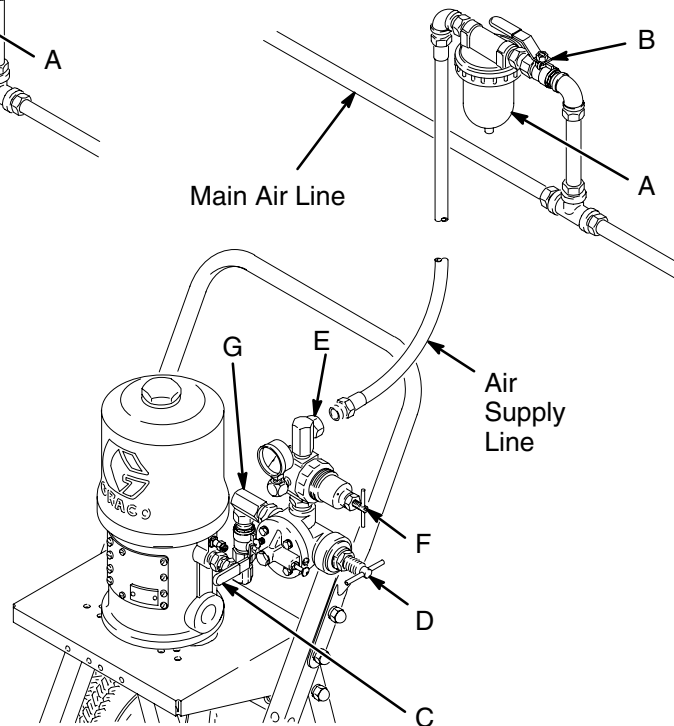
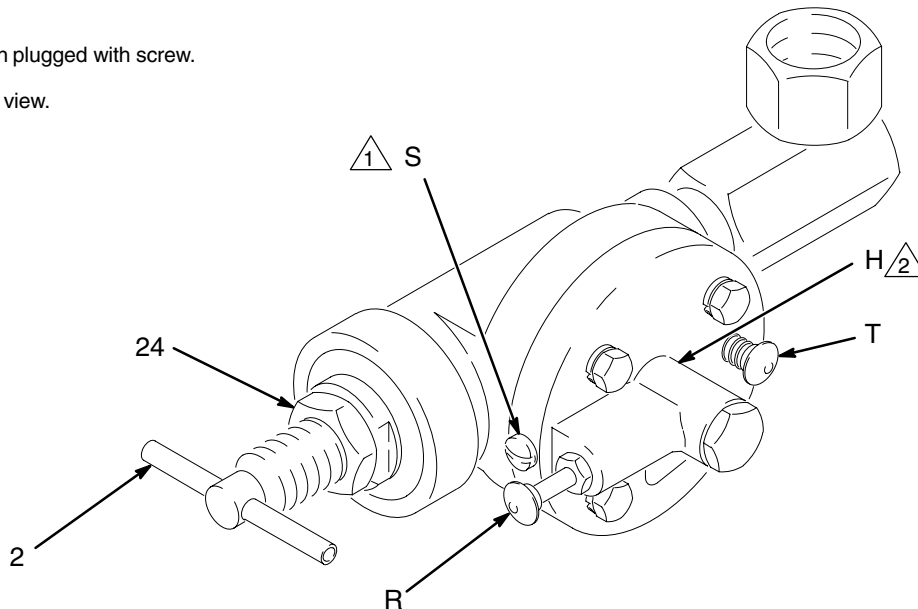

Fig. 1
Fig. 2
Reference letters and numbers in the text refer to Figs. 1 and 2 and the Parts Drawing on page 10.
Detail A of Fig. 1 shows the runaway valve (D) used with a Bulldog® air motor, mounted on a cart. Mounting on a wall bracket is done the same way. To eliminate nuisance tripping of the runaway valve caused by air motor changeover, mount the air regulator (F) between the air motor and the runaway valve. Use the 90° swivel adapter (G, supplied) to connect the runaway valve outlet to the air regulator inlet.
Details B and C of Fig. 1 show the runaway valve (D) used with a President® air motor, mounted on a wall and on a cart. When used with low air flows such as with a President air motor, the runaway valve operates more reliably installed between the air regulator (F) and the air motor. Use the 90° swivel adapter (G, supplied) to connect the runaway valve outlet to the air line.
Signal Port (See Fig. 2)
1. Loosen the adjustment locknut (24). See Fig. 2.
2. Check that the T-handle (2) is turned all the way **counterclockwise**.
4. **Slowly** open the main air shutoff valve (B), the air regulator (F), and the bleed-type master air valve (C). See Fig. 1.